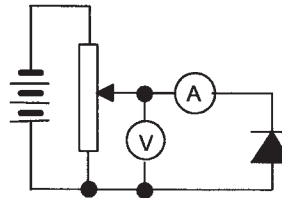

Figure 13.12 Activity 1
- 1 Use the circuit shown in Figure 13.12 to determine the forward bias characteristic of a junction diode. Then reverse the connections of the diode and obtain the reverse bias characteristic.